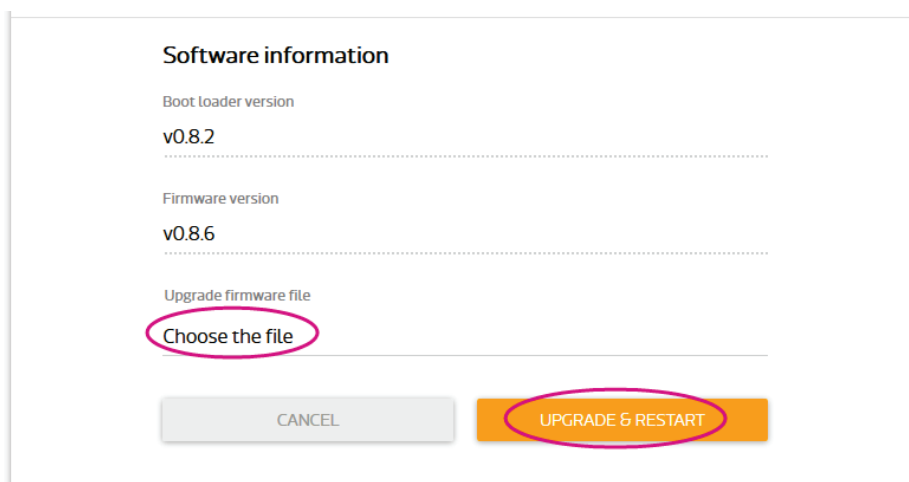

Figure 17 Selecting firmware file
- 3) Click under **Upgrade firmware file** and choose the **lks7688.img** file. Click **Upgrade & Restart** button as shown in Figure 17.